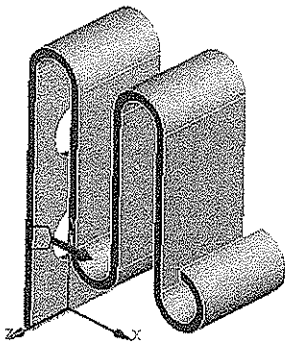

Figure 9-59 Coordinate system placed in the model
Notice that, with the inclusion of Displacement support in the analysis system, a local coordinate system icon is placed in the model, as shown in Figure 9-59. This coordinate system will help you to control the displacement of the support along a certain axis.
14. Enter **2** in the **X-Component** edit box; an arrow is placed in the model, refer to Figure 9-59, indicating that the displacement is possible only along positive X axis.